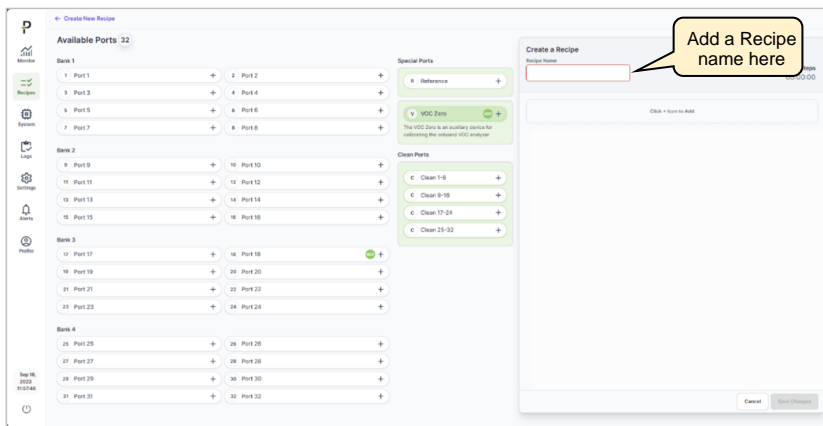

Figure 27: Create New Recipe Window – Default View
1. Click the **Add/Create New Recipe** button then click the **Create New Recipe** option as shown above to open the **Create a Recipe** dialog window (Figure 27).